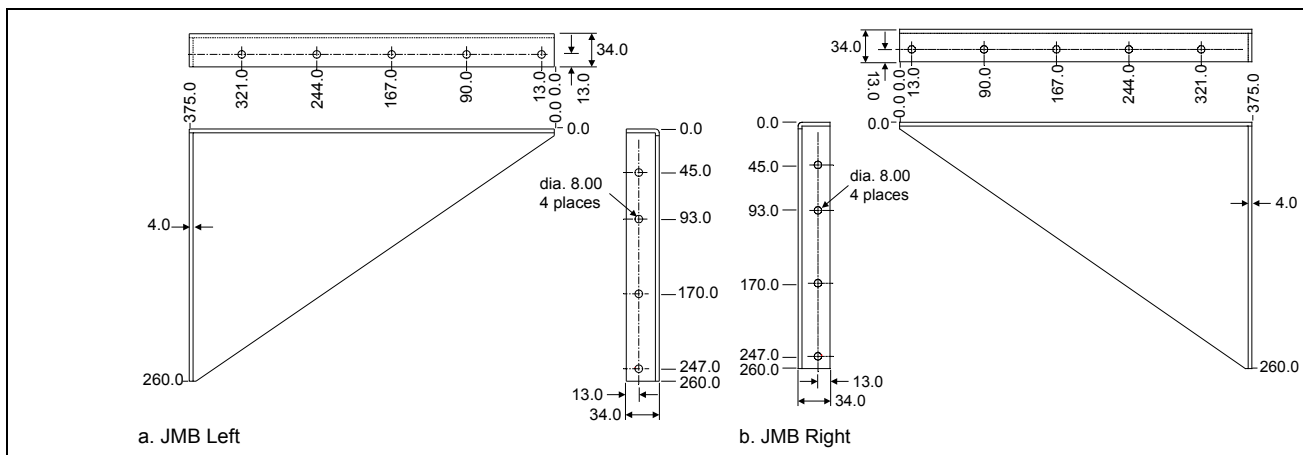

Figure 17: Drawing of Vertical Mounting Brackets (JMBs)
2. Mounting Brackets (**JMBs**) – shown in *Figure 17*. They are used for mounting on a vertical surface, and are supplied on customer order.